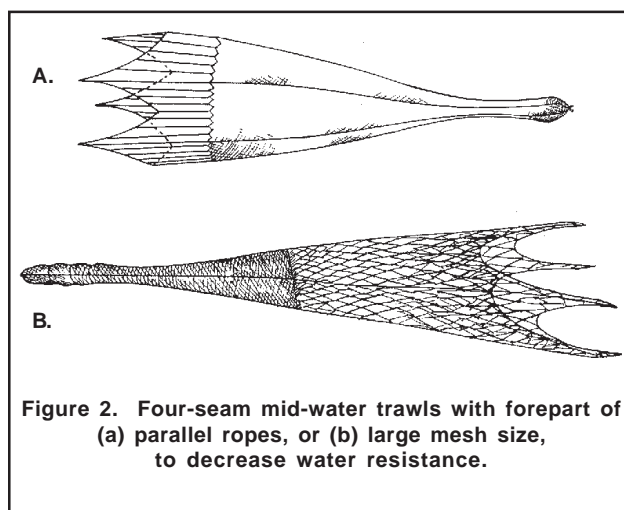
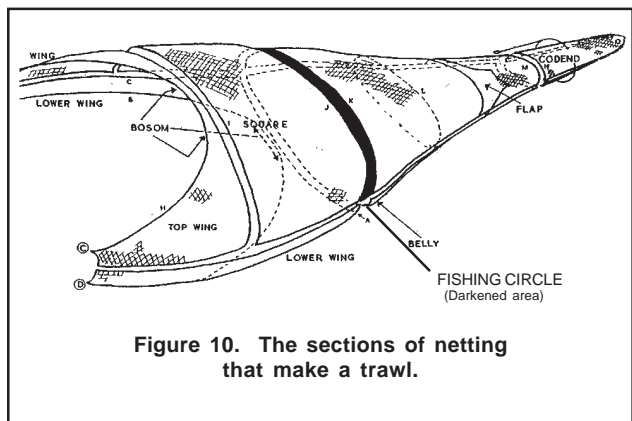

Figure 2. Four-seam mid-water trawls with forepart of (a) parallel ropes, or (b) large mesh size, to decrease water resistance.
Figure 10. The sections of netting that make a trawl.
6. CONSTRUCTION: Record the type of net construction (see Figure 2) used in the forward portion of the net by placing an "X" next to the appropriate code:
28. NUMBER OF MESHES: Record the number of meshes in the fishing circle. This information may be obtained from the captain. Do not include the meshes in the gore. See the definition of fishing circle in the introduction and Figure 10.
29. MESH SIZE: Record, in whole centimeters, the predominant **inside** mesh measurement from the fishing circle. This information may be obtained from the captain. See the definition of fishing circle in the introduction and Figure 10.
NOTE: See Figure 2 in the Otter Trawl Gear Characteristics Log Instructions for an illustration of mesh measurement.
NOTE: See Figure 10 for the location of the codend, and Figure 2 in the Otter Trawl Gear Characteristics Log Instructions for an illustration of diamond and square hanging configurations.
NOTE: See Figure 2 in the Otter Trawl Gear
NOTE: See Figure 2 in the Otter Trawl Gear Characteristics Log for an illustration of mesh measurement. See also Appendix P. Vernier Caliper Instructions for further information.
- 4 = Guiding Device, *i.e.* a funnel or "flap" (see Figure 10 and 11).